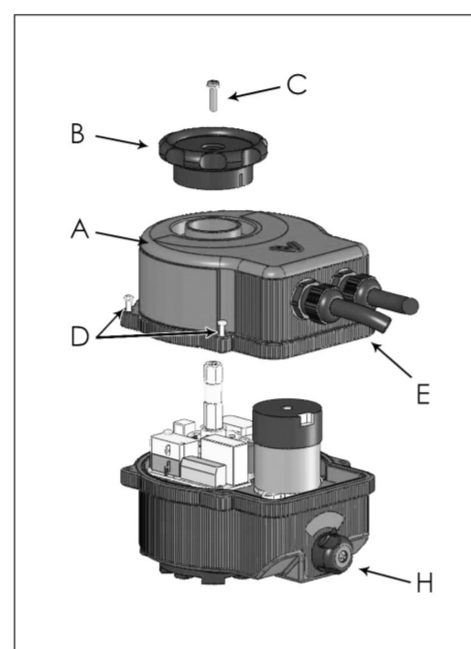

Fig.1 External view of actuator
4.1 Opening of actuator (fig.1)